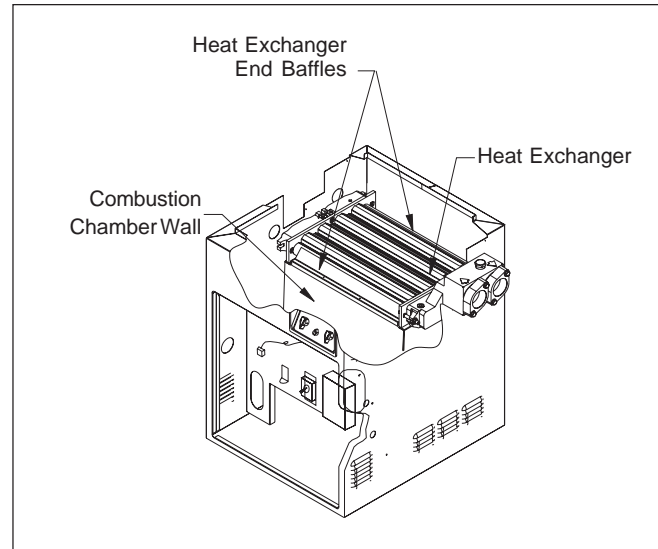

Figure 15. Heat exchanger and end baffles.
12. When removing the heat exchanger from the heater, the end baffles of the heat exchanger must be removed. There are two baffles covering part of the front and rear tubes of the heat exchanger. Each baffle is held in place by screws which mount to the top of the combustion chamber wall. Remove the screws and the baffles before attempting to lift the heat exchanger out of the heater (see Figure 15).